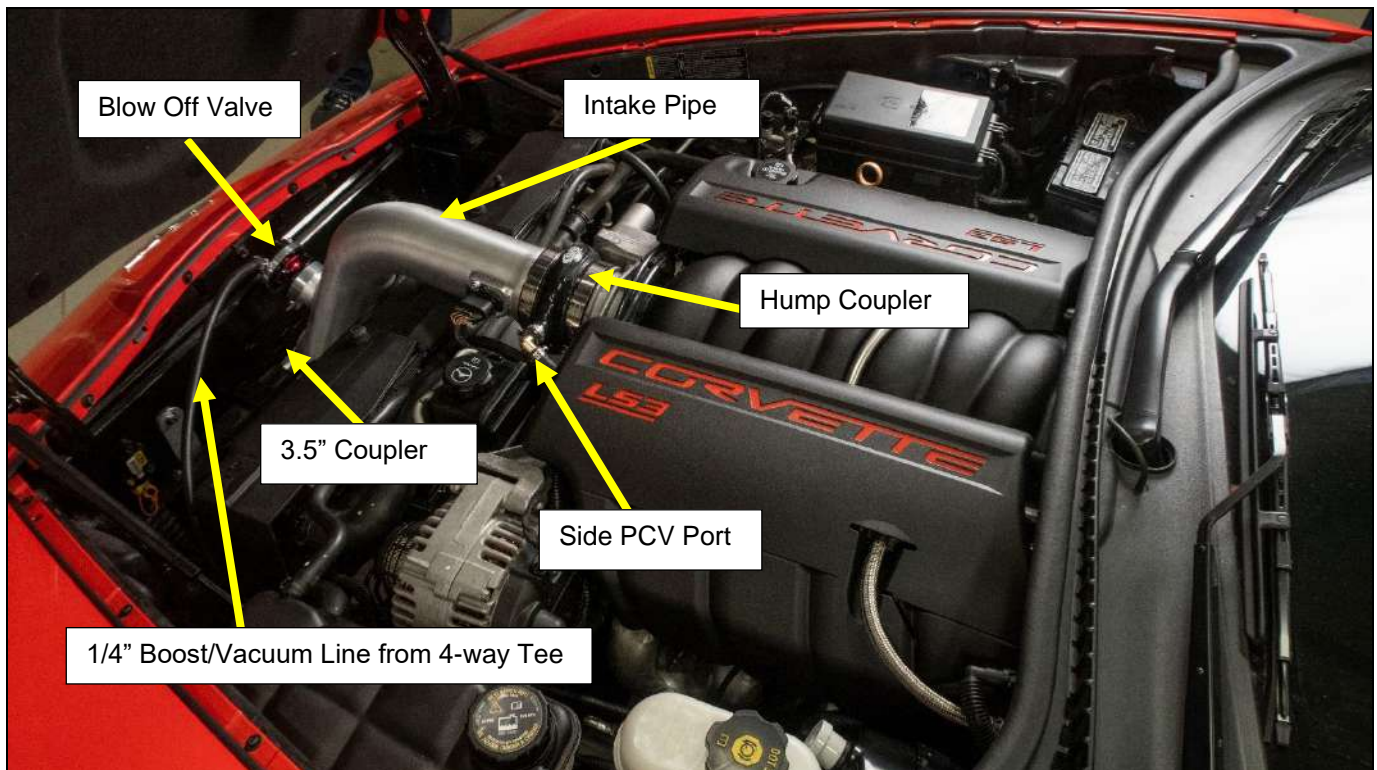

Figure 29
10. Install the 3/8" 90 degree hose barb into the side PCV port of the bellows coupler and install a hose clamp. Trim the hose previously run from the bottom port of the PCV pressure switch to the hose barb for a correct fit. Install a hose clamp, connect the PCV hose to the hose barb installed in to the side PCV port, and tighten the hose clamp (**Figures 29 & 30**).